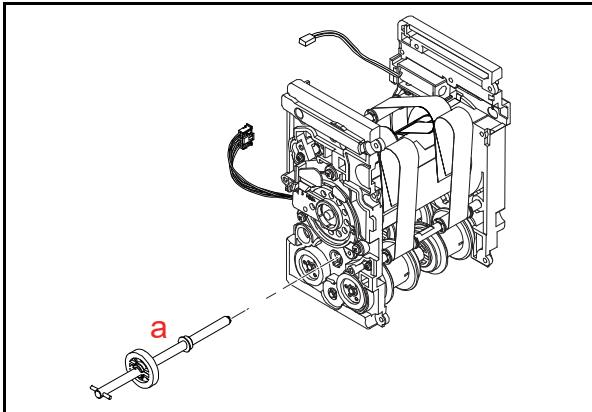

**Figure 4-111** Solenoid Removal 5
6. Remove the single (1) E-ring (Figure 4-111 **a**), the single (1) Handle (Figure 4-111 **b**), the single (1) Parallel Pin (Figure 4-111 **c**), and the single (1) Bearing (Figure 4-111 **d**).